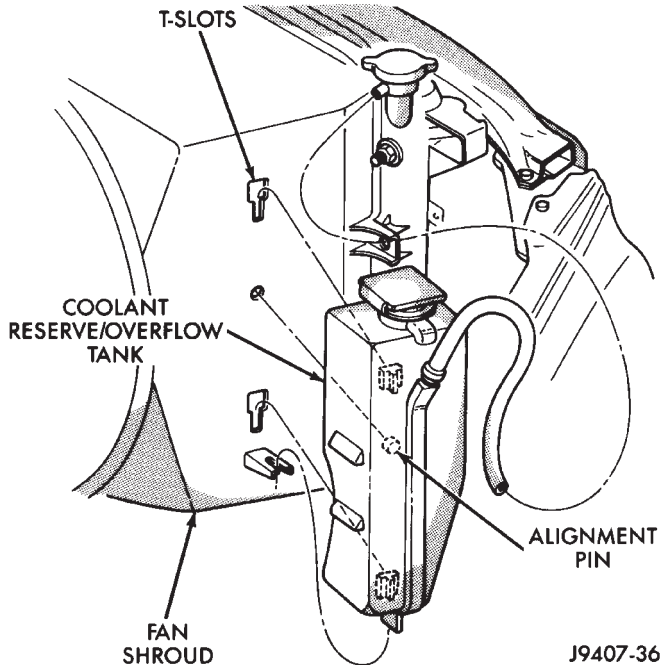

Fig. 30 Coolant Recovery Bottle
(4) Disconnect the coolant recovery bottle hose from the radiator filler neck. Remove the coolant recovery bottle from the fan shroud (pull straight up). The tank slips into T-slots on the fan shroud. (Fig. 30).
(7) Install windshield washer reservoir tank. Refer to Group 8K. Connect electrical connections and supply hose.
(8) Install metal clips to top of fan shroud.
(9) Install coolant recovery bottle to fan shroud (Fig. 30).
(10) Install coolant recovery bottle hose to radiator filler neck nipple.
(11) Install the radiator upper hose and clamps.
(12) Connect the battery negative cables.
(13) Fill cooling system with coolant. Refer to Refilling Cooling System in this group.
(14) Start engine and check for leaks.